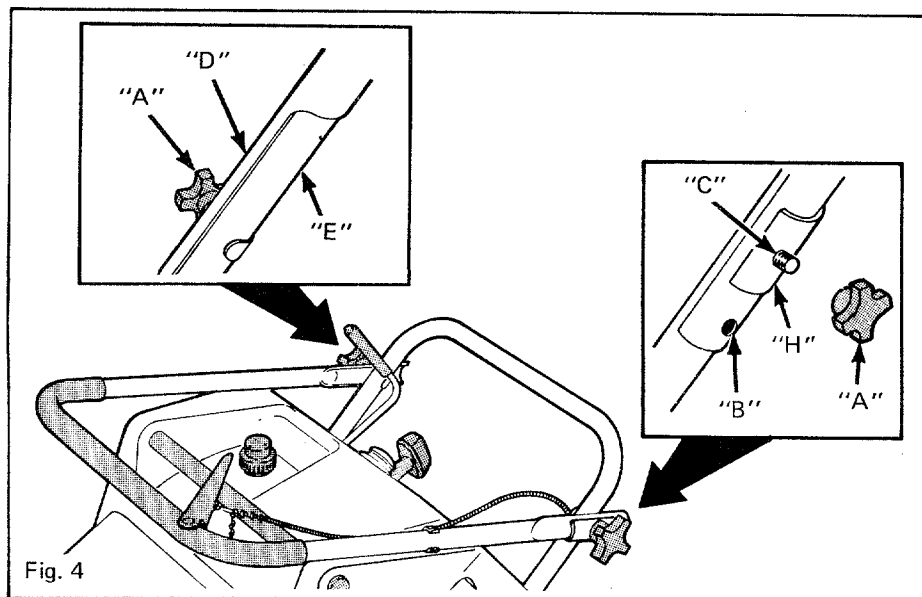

Fig. 4
- Remove hand knobs (A), Figure 4.
- Lift handle up and position in either of two operating positions: HIGH position (B) or LOW position (C). Pinched ends of upper handle (D) must fit snugly around lower handle (E).
- Place handle plates (H) onto threaded studs.